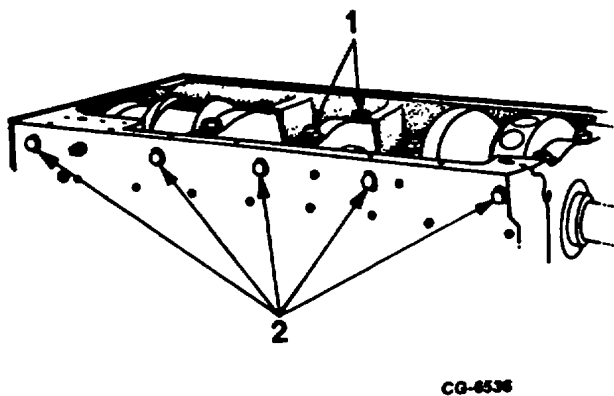

Figure 105. Main Bearing Cap Bolts, Tie Bolts and Washer
- 15. Remove self-locking bolts, tie bolts and washers from each crankshaft main bearing cap (Figure 105).